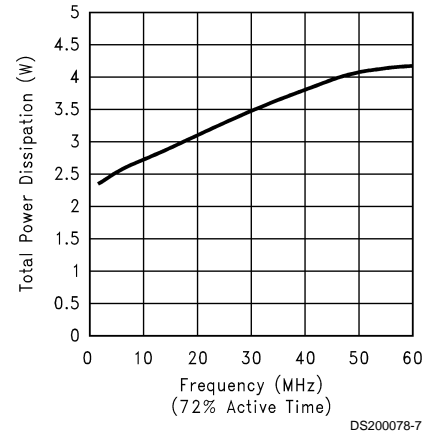

FIGURE 6. Power Dissipation vs Frequency
*Figure 6* shows the maximum power dissipation of the LM2467 vs. Frequency when all three channels of the device are driving an 8 pF load with a 40 Vp-p alternating one pixel on, one pixel off signal. The graph assumes a 72% active time (device operating at the specified frequency) which is typical in a monitor application. The other 28% of the time the device is assumed to be sitting at the black level (65V in this case). This graph gives the designer the information needed to determine the heat sink requirement for his appli-
The LM2467 case temperature must be maintained below 100°C. If the maximum expected ambient temperature is 70°C and the maximum power dissipation is 4.3W (from *Figure 6*, 50 MHz bandwidth) then a maximum heat sink thermal resistance can be calculated: